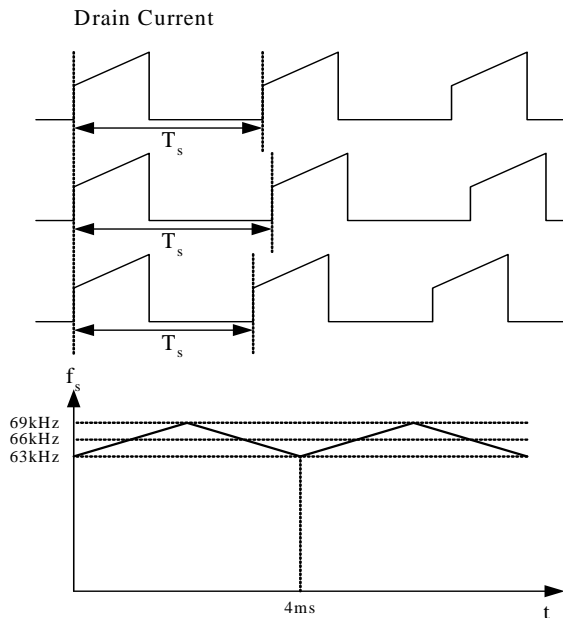

Figure 21. Frequency Modulation
**4. Frequency Modulation:** EMI reduction can be accomplished by modulating the switching frequency of a switched power supply. Frequency modulation can reduce EMI by spreading the energy over a wider frequency range than the band width measured by the EMI test equipment. The amount of EMI reduction is directly related to the depth of the reference frequency. As can be seen in Figure 21, the frequency changes from 63kHz to 69kHz in 4ms.